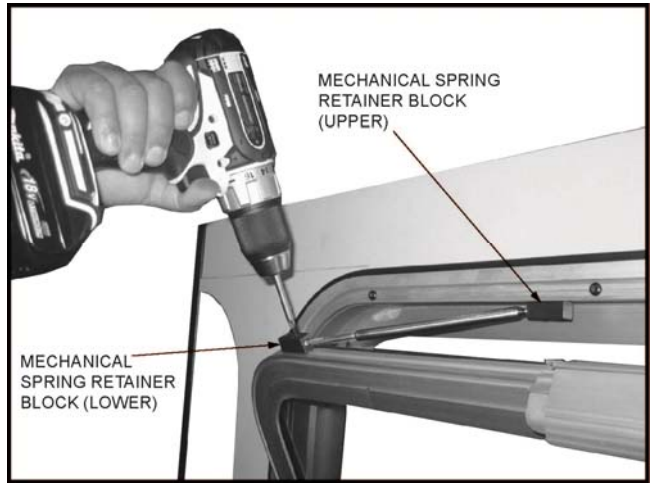

FIGURE 3-25. HINGE BLOCK REMOVAL
- 4) Refer to **Figure 3-25**. Remove screws that hold the (lower) Mechanical Spring Retainer Block onto Hopper Window, using a cordless driver with a Phillips driver bit (Size P2).
- 7) Remove screws and both (Upper) Mechanical Spring Retainer Blocks, as shown in **Figure 3-25**. Properly discard parts.